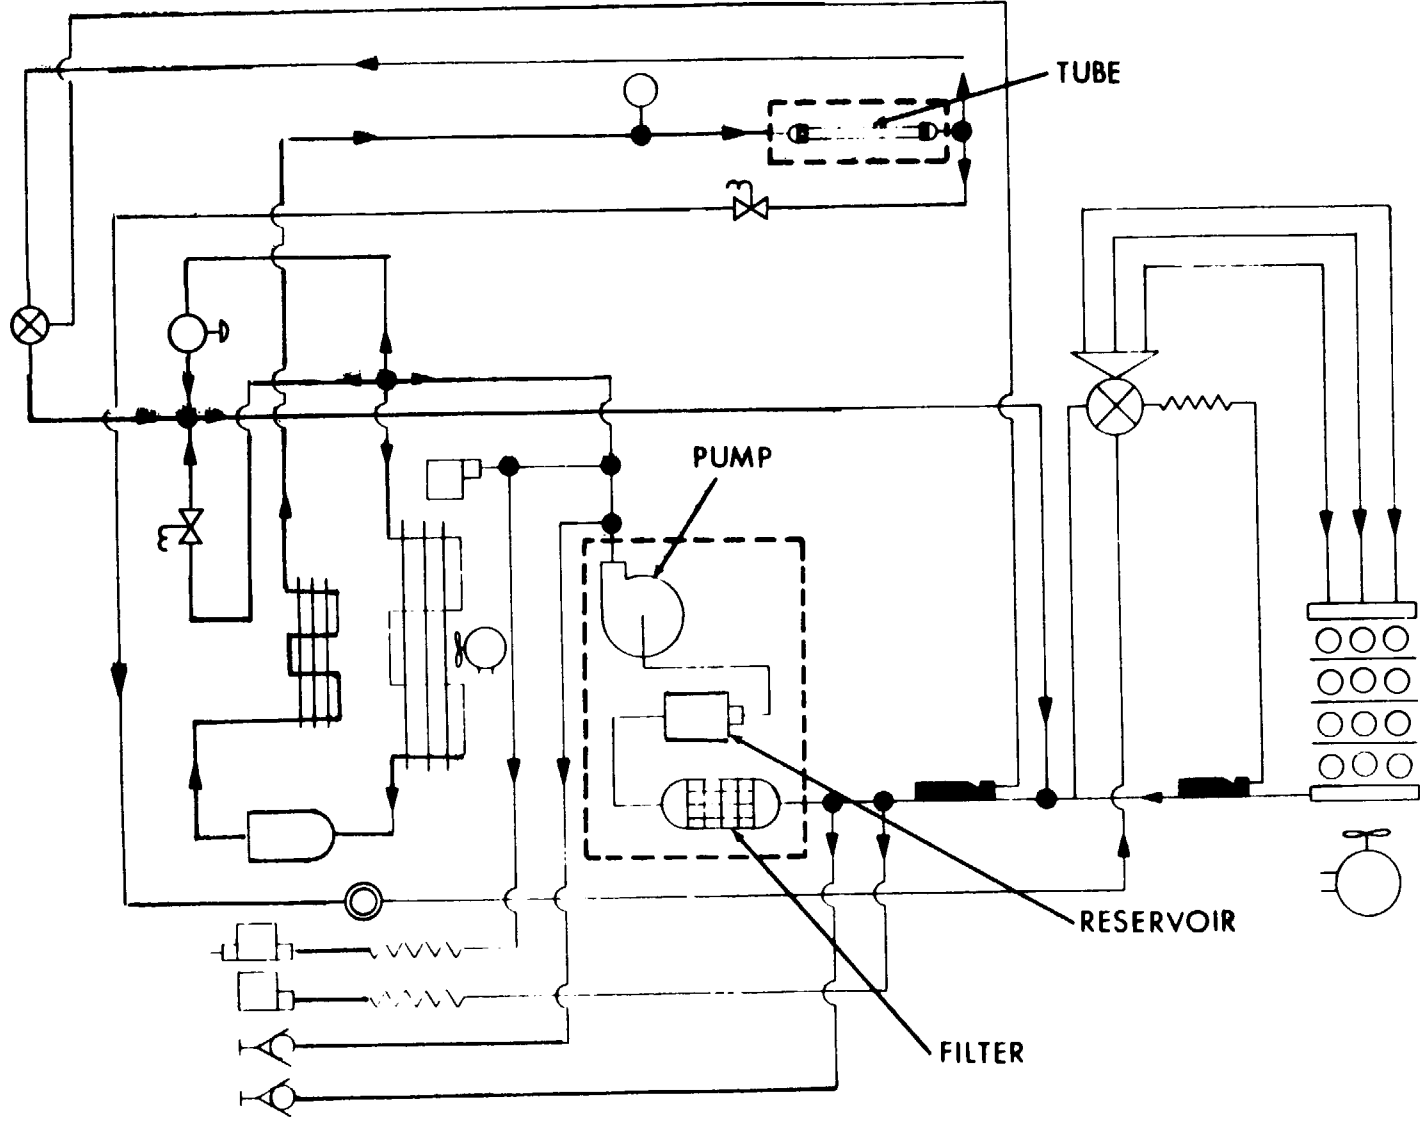

Figure 5-5. Typical Flushing Hook-up.
b. Connect the two filter-drier fittings with a jumper locally manufactured from refrigerant tubing and fittings, and install a pump, reservoir and filter in place of the compressor. (See figure 5-5).